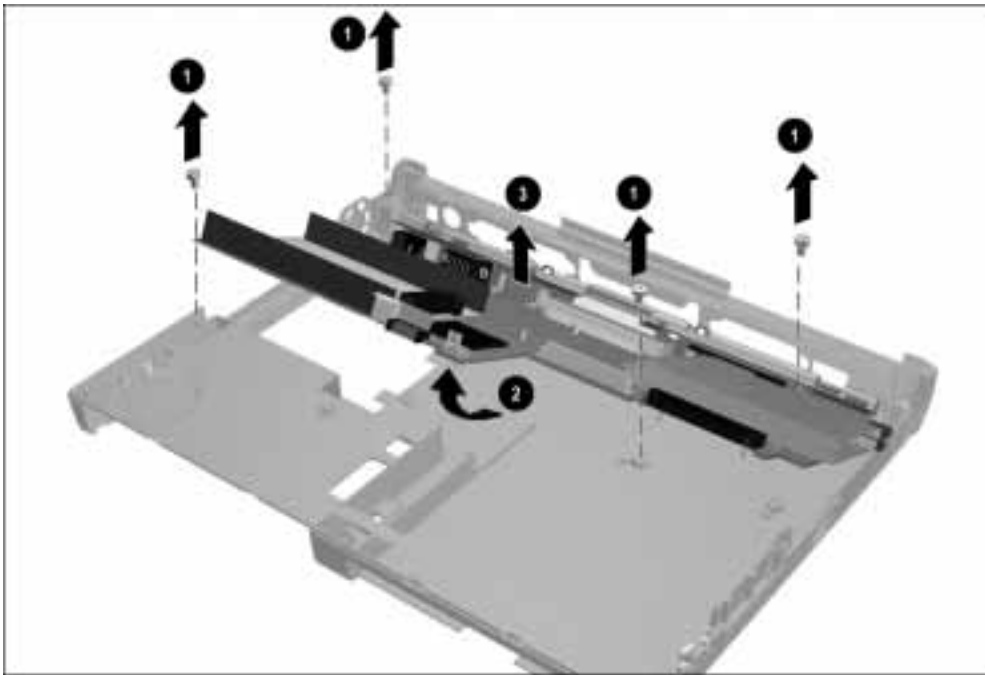

Figure 5-43. Removing the System Board
12. Remove the four screws ❶ that secure the system board to the base assembly (Figure 5-43).
13. Lift up on the front edge of the system board ❷. Once the front edge of the system board clears the battery bay housing, pull the system board forward and remove it from the computer ❸.